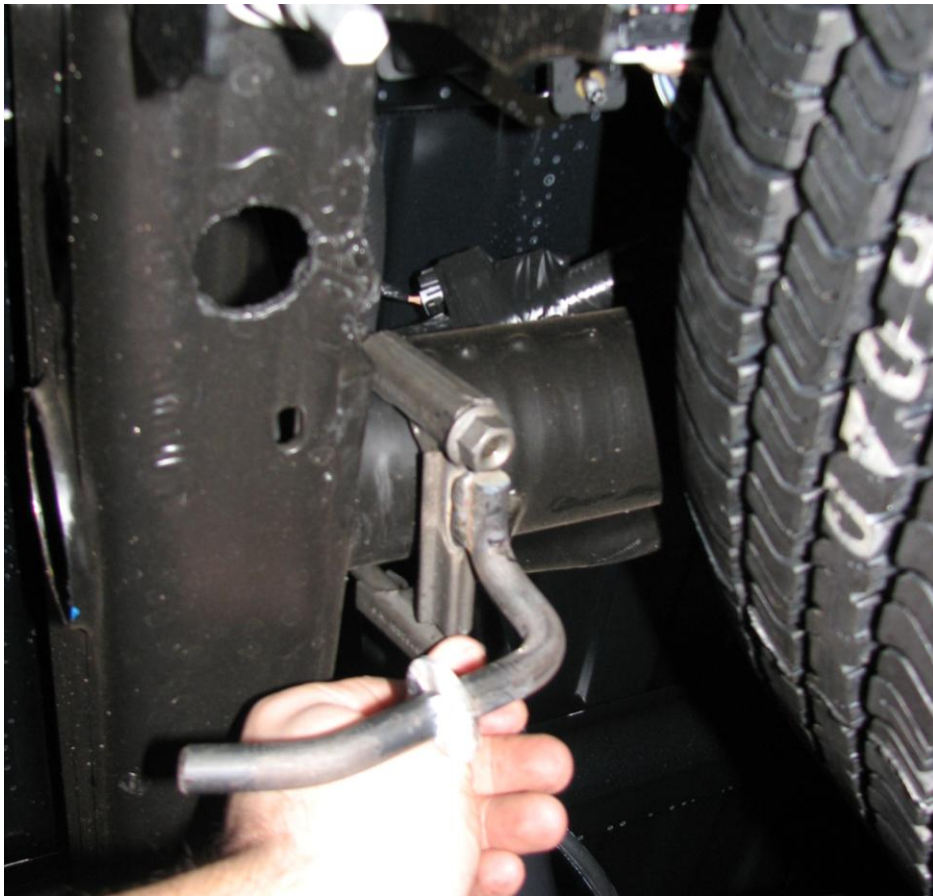

Figure 8: 3" Guillotine with Hanger
- 9 Next bolt the supplied 3” clamp hanger onto the driver’s side of the crossover frame tube and install one of the rubber isolators previously removed onto it... **See figure 8.**